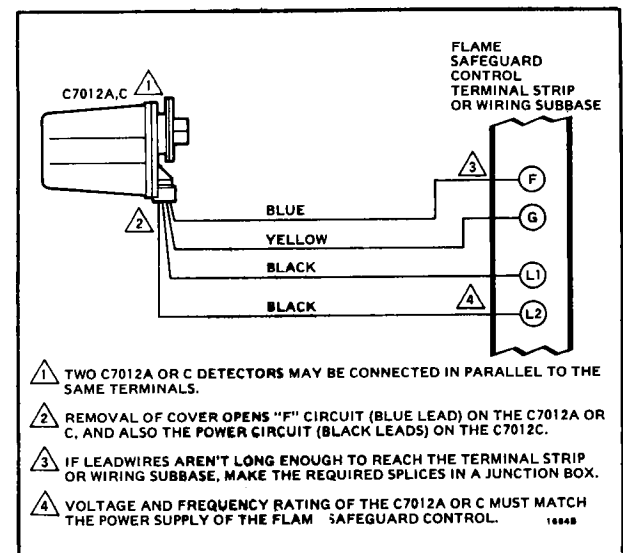

FIG. 4—TYPICAL WIRING CONNECTIONS FOR THE C7012A,C.
WIRING (FIG. 4)
7. Refer to Fig. 4 for wiring connections.